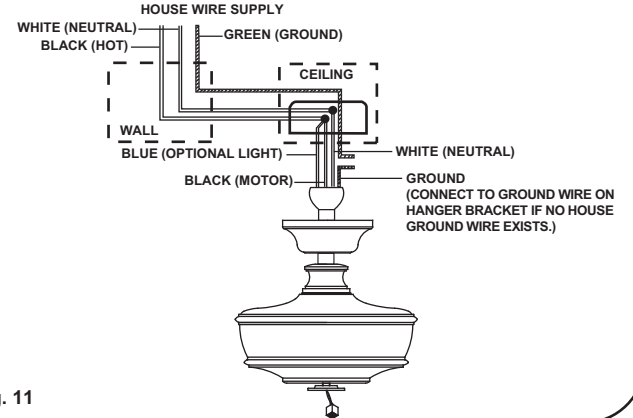

Fig. 11
Step 1. Connect the black (hot) wire from the ceiling to the black and the blue wires from the fan. Connect the white (Neutral) wire from the ceiling to the white wire from the fan. (Fig. 11)
Step 2. If your outlet has a ground wire (Green or Bare Copper) connect the fan ground wires (on hanger ball and hanger bracket) to it; otherwise connect the fan ground wire on hanger ball directly to the hanger bracket. (Fig. 11)